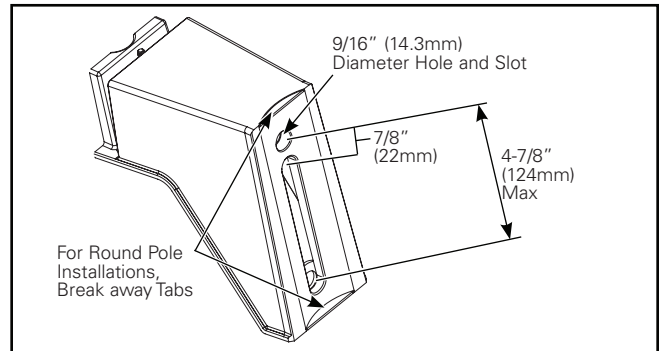

**Figure 9. Axcet Small Pole Mount**
3. Attach the knuckle mount assembly to the fixture and tighten (2) 1/4 -20 Phillips head screws to 20 in-lbs (Figure 9). Ensure that the luminaire supply leads are not pinched between the wedge plate and housing.